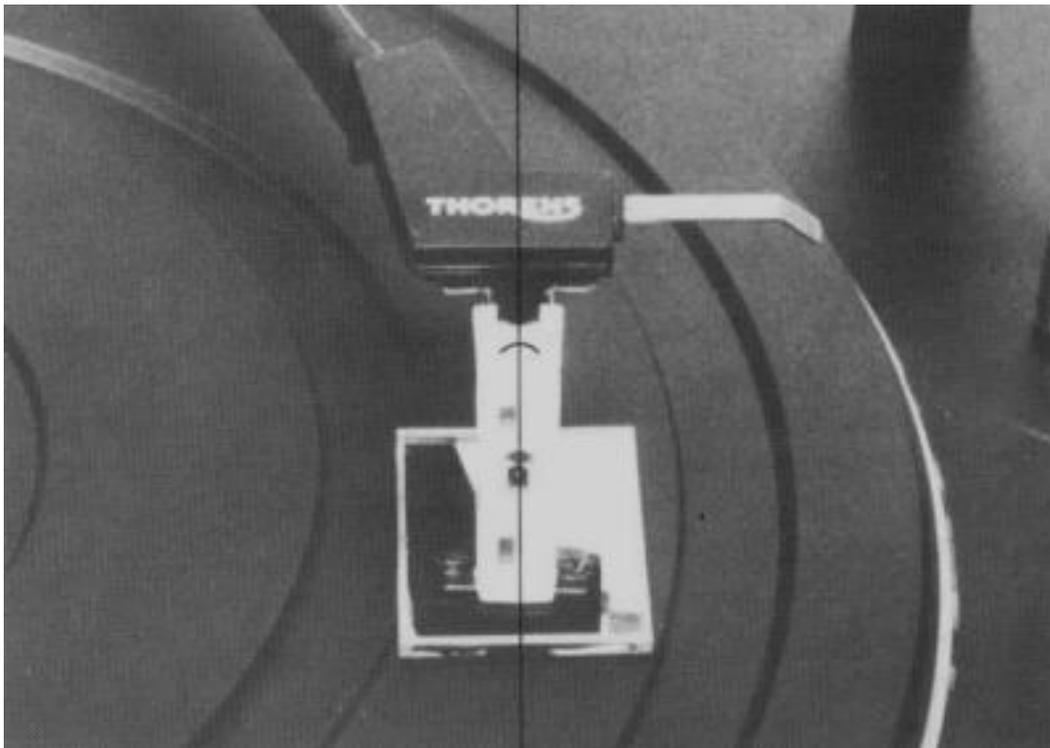

Figure 23
9. After the tone arm has been mounted and adjusted, it is necessary to verify the correct horizontal position of the cartridge with respect to the platter. Place a mirror on the platter and lower the pickup stylus onto its surface. When viewed from the front, the cartridge must be positioned symmetrically about its vertical axis. By comparing the cartridge and its mirror image, the correct position may be determined (Figure 23); if necessary, the cartridge can be adjusted by holding the wand and rotating the head part only, until symmetry is achieved.